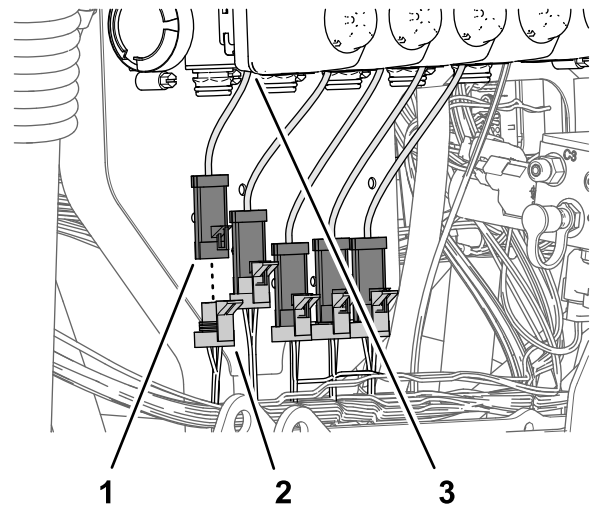

Figure 114
2. Connect 3-socket connector (Figure 114) of the 89 cm (35 inch) kit wire-harness branch labeled NOZZLE VALVE 1 into the 3-pin connector of the left most valve actuator (position 1).
3. Connect 3-socket connector (Figure 114) of the 89 cm (35 inch) kit wire-harness branch labeled NOZZLE VALVE 2 into the 3-pin connector of the valve actuator (position 2).
4. Connect the remaining 3-socket connectors of the 89 cm (35 inch) kit wire-harness branch into the 3-pin connector of the valve actuators (Figure 114).